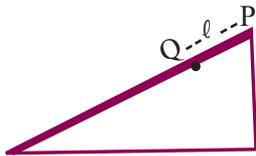

Fig. 7.35 (c)
The vertical distance from the beginning of the slanting edge of the paper (P) to where one full turn is completed (Q) is the pitch (h) [Fig.7.35 (b)].